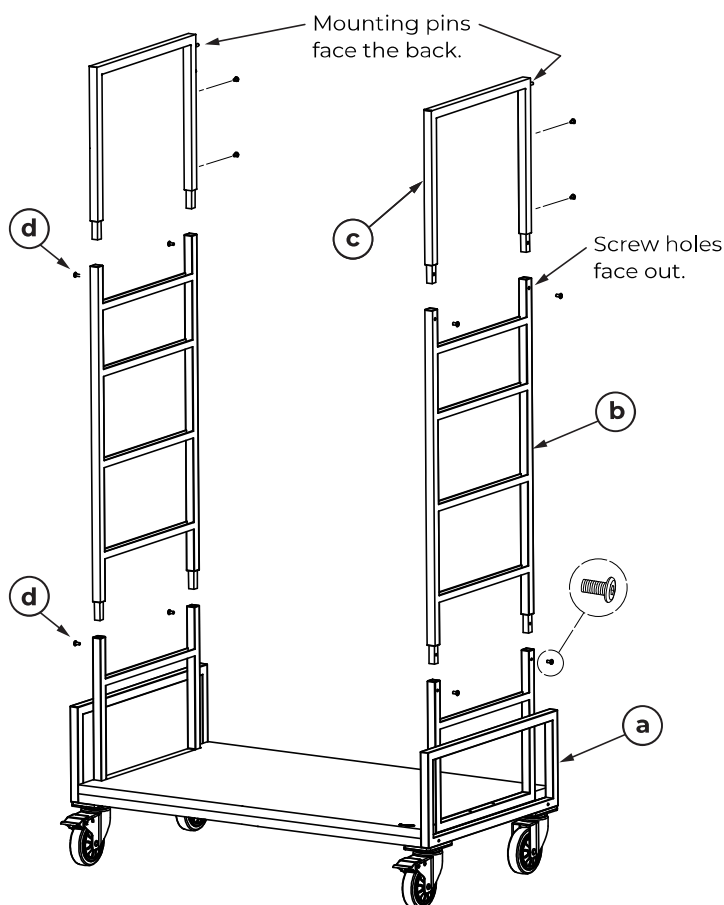

Figure 3
- Place the Base Assembly (a) upright on a flat surface. Lock the front Casters (g). Insert both Center Frames (b) into the Base Assembly (a). Install two (2) Allen Screws (d) at the bottom of both the left and right Center Frames as shown in Figure 3. The screw holes face outwards.
- Insert both Upper Frames (c) into the holes in the Center Frames (b). Install two (2) Allen Screws (d) at the top of both the left and right center frames as shown in Figure 3. The mounting pins on the Upper Frames should be facing towards the back.